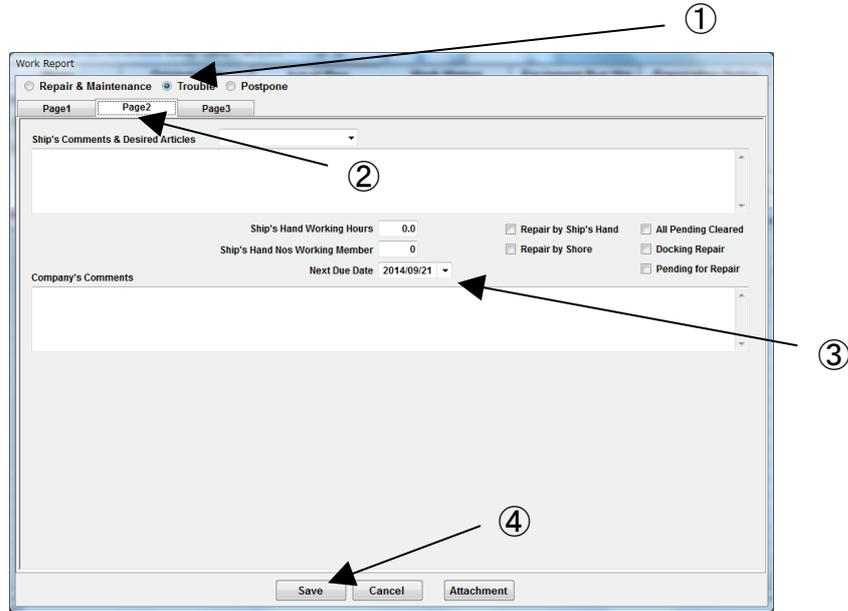

Fig.6-10 Work Report Screen
(1) On the "Work Report Screen" (Fig.6-10), select [Trouble].